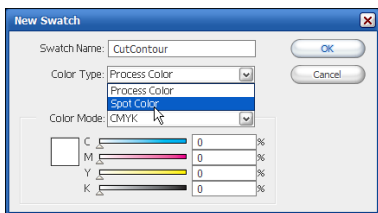

Figure 2—New Swatch
4. Select **Spot Color** from the Color Type drop-down menu (see Figure 2).